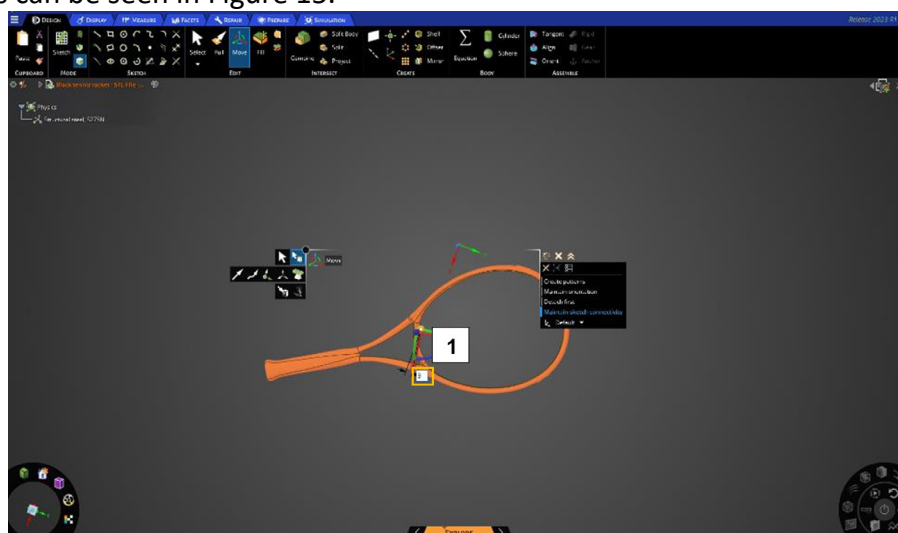
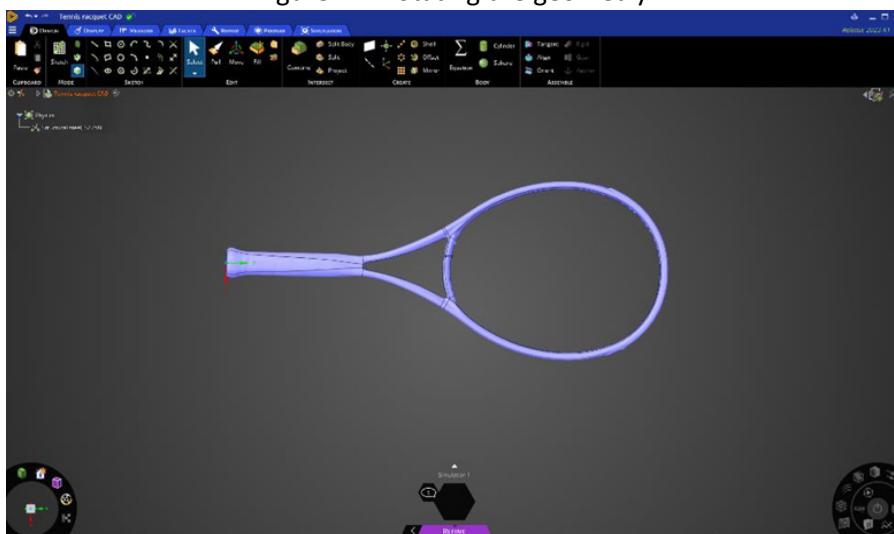

Figure 14: Rotating the geometry.
Figure 15: CAD geometry of the tennis racket displaced to the origin and rotated to align with the y-axis.
5. Choose the desired axis of rotation on the triad and drag with your mouse. If a precise angle of rotation is required, enter it into the dialogue box (Fig. 14 (1)). The final CAD geometry aligned with the origin and y-axis can be seen in Figure 15.